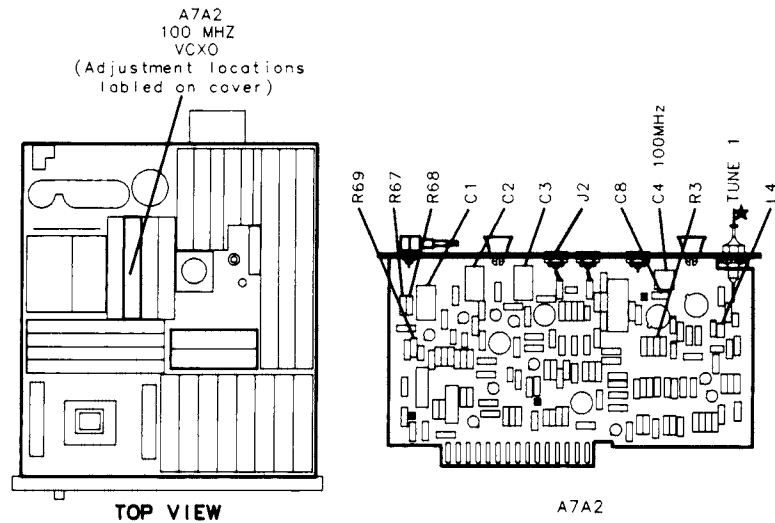

Figure 3-65. Location of 100 MHz VCXO Adjustments
- Set the dc power supply for an output of -8 Vdc. Connect the -8 Vdc output of the dc power supply to the A7A2TP1 TUNE test point. Refer to Figure 3-65 for the location of the A7A2 100 MHz VCXO Assembly and test point A7A2TP1 TUNE.
If the output power of the 100 MHz VCXO drops off by more than 1 dB within ± 300 Hz of 100 MHz, select a new value for factory-selected component A7A2L4. An increase of A7A2L4 by one standard value will shift the tuning range of the 100 MHz VCXO lower in frequency by approximately 500-600 Hz; conversely, a decrease in the value of A7A2L4 will shift the 100 MHz VCXO tuning range higher in frequency by the same amount. Refer to Table 3-7 for the acceptable range of values and corresponding HP part numbers for A7A2L4, and to Figure 3-65 for the location of A7A2L4.
If A7A2C4 100 MHz does not have sufficient adjustment range to tune the 100 MHz VCXO +300 Hz to 100.000300 MHz, select a lower value for factory-selected component A7A2C8; conversely, select a higher value for A7A2C8 if A7A2C4 does not have sufficient range to tune the 100 MHz VCXO -300 Hz to 99.999700 MHz. Refer to Table 3-3 for the acceptable range of values, and to Table 3-4 for HP part numbers; refer to Figure 3-65 for the location of A7A2C8.
8. Adjust A7A2C4 100 MHz slowly through its full range while monitoring the display of the second spectrum analyzer. The output of the 100 MHz VCXO should be a single output signal near 100 MHz, with no spurious oscillations at other frequencies. If spurious oscillations are present, increase the value of factoryselected component A7A2R3 by one standard value and check again for spurious oscillations. Refer to Table 3-3 for the acceptable range of values, and to Table 3-4 for HP part numbers; refer to Figure 3-65 for the location of A7A2R3.
values for the attenuator resistors to adjust the 400 MHz output power level to -10 dBm. Refer to Table 3-10 for HP part numbers, and to Figure 3-65 for the location of A7A2R67, A7A2R68, and A7A2R69.